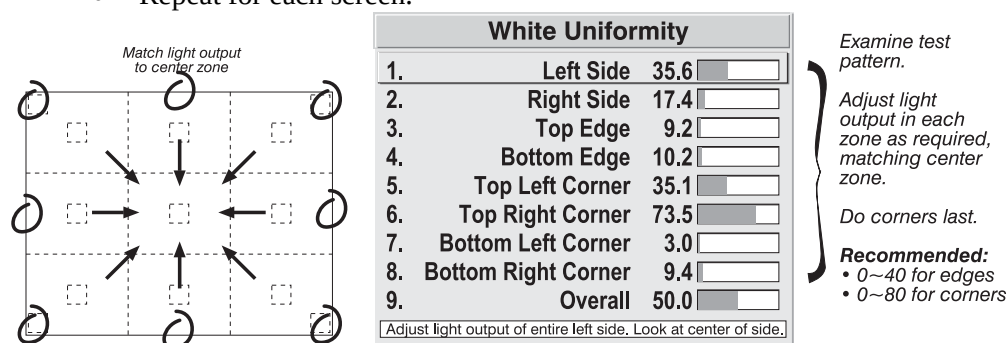

**Figure 3.35. Match Zones to Center Light Output**
**3a)** For each screen, compare the light output of each *edge* and *corner* to that of the *center*. If any of the areas differ, use the *White Uniformity* menu to match edges and corners to the center as described below (see Figure 3.35). Begin with the screen exhibiting the most obvious variations in light output.